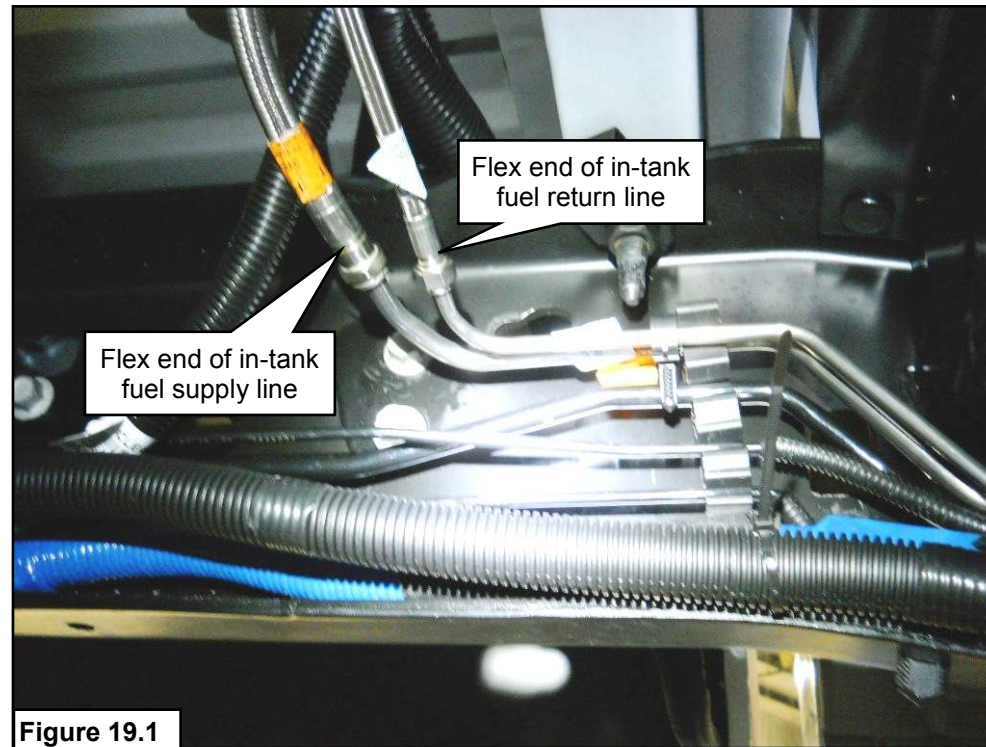

Figure 19.1
2. Connect the flex portion of the in-tank fuel supply line to the fuel supply line on the frame rail with the quick-connect fitting. **Figure 19.1.**
3. Connect the flex portion of the in-tank fuel return line to the fuel return line on the frame rail with the quick-connect fitting. **Figure 19.1.**